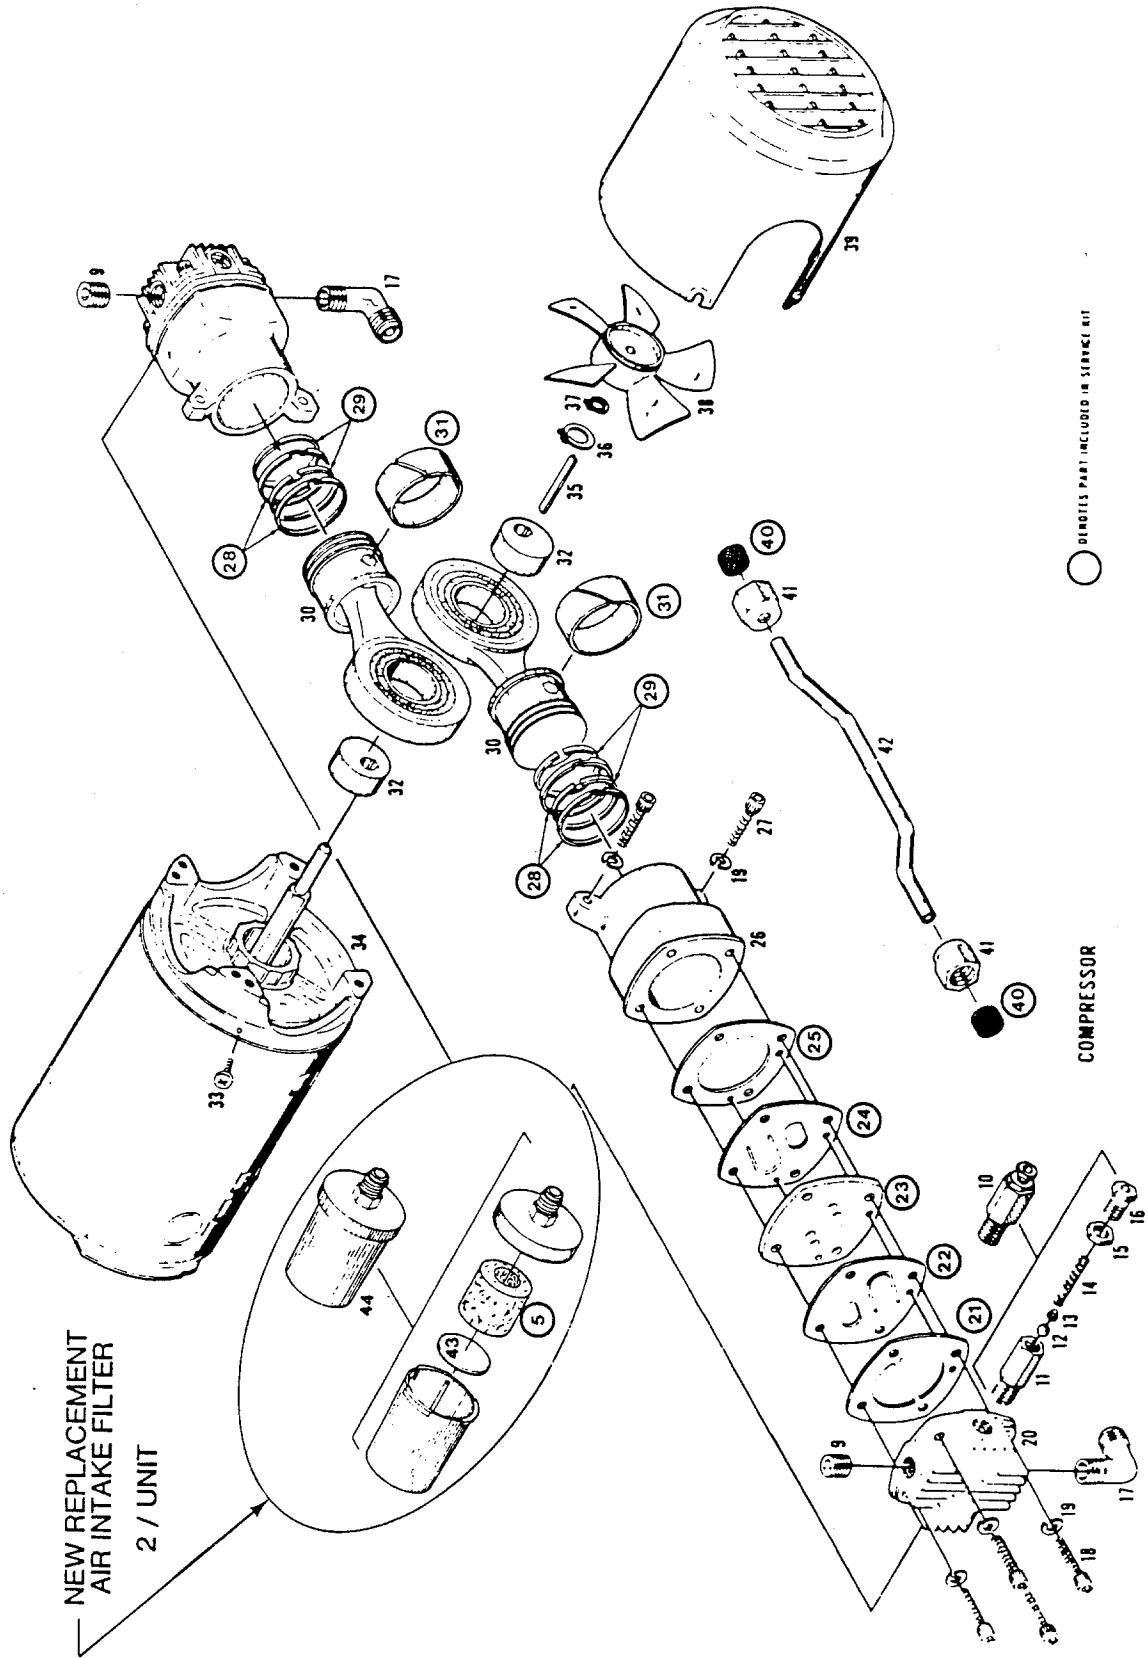

FIGURE 10. EXPLODED VIEW OF AIR COMPRESSOR AND MOTOR ASSEMBLY
3. Air Compressor Safety Valve (Item 10, Fig. 10)
- b. Referring to Figure 10, loosen the safety valve lock nut (Item 15) and adjust the screw (Item 16) until the maintained pressure is 55 PSIG and the relief valve is bleeding air.
7. AIR COMPRESSOR MAINTENANCE (Fig. 10, Page 12)
3. Install the valve components, gaskets and valve plates by stacking them as outlined in Figure 10 exploded view of air compressor. The leaves on the intake and discharge valves have been prebent and should not be adjusted in any way.
4. Install a head assembly using the lock washers and head screws. Do not tighten The Head Screws At This Time. **Caution:** On the top of each cylinder head the end of two (2) fins have been omitted. They are always in the exhaust port.
4. Check the air compressor safety valve (Fig. 10. Item 10) for any leakage of air, and the compressor's wiring connections to insure that the compressor is wired for "low voltage".
10.2 Air Compressor Parts List - See Figure 10, Page 12, For Reference Numbers